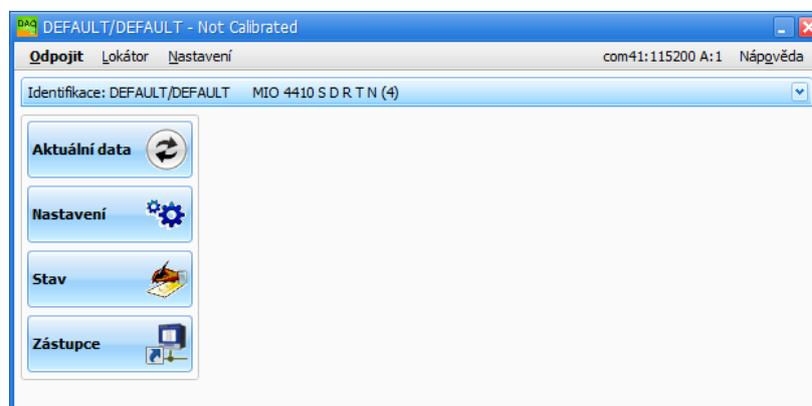

Figure 6: ENVIS.Daq application window with connected instrument.
5. Press *Connect* on menu or *ENTER*. The application attempts to connect to the specified device. If the connection is successful, it loads the settings stored in the device and displays a summary window (fig. 6).